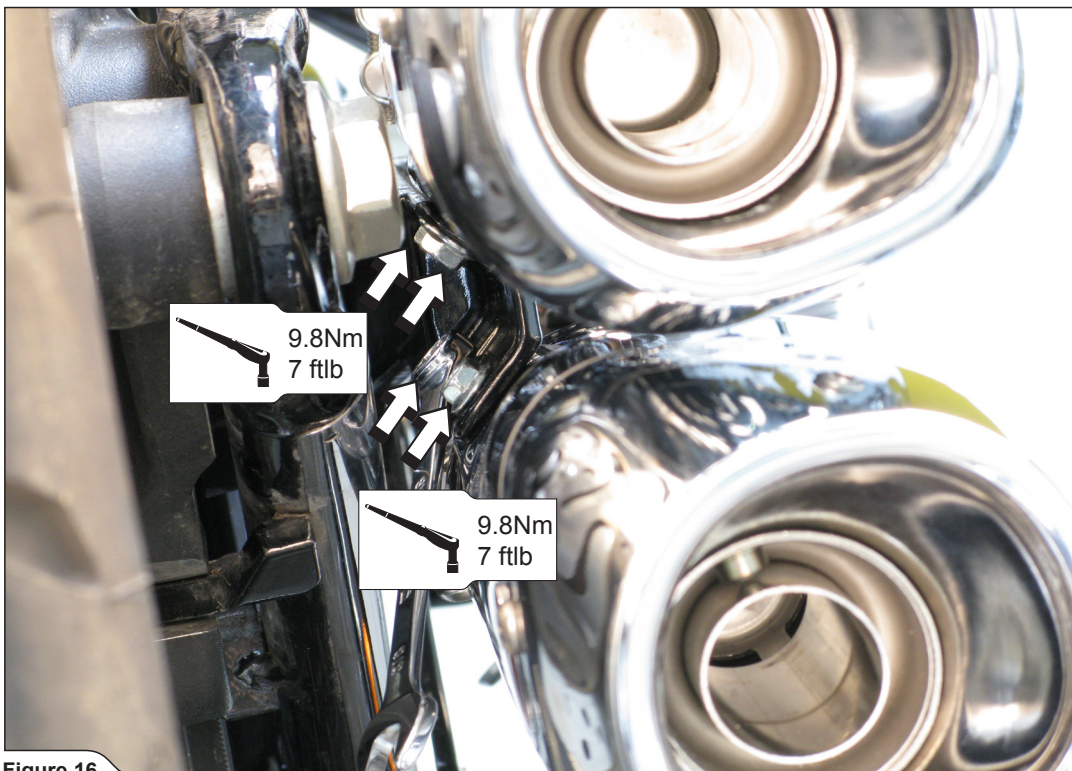

Figure 16
6. Align the mufflers in respect to the motorcycle. First tighten mufflers onto the original muffler bracket, then tighten the muffler - link pipe connection clamps and finally header - link pipe connection clamps (Figure 16).